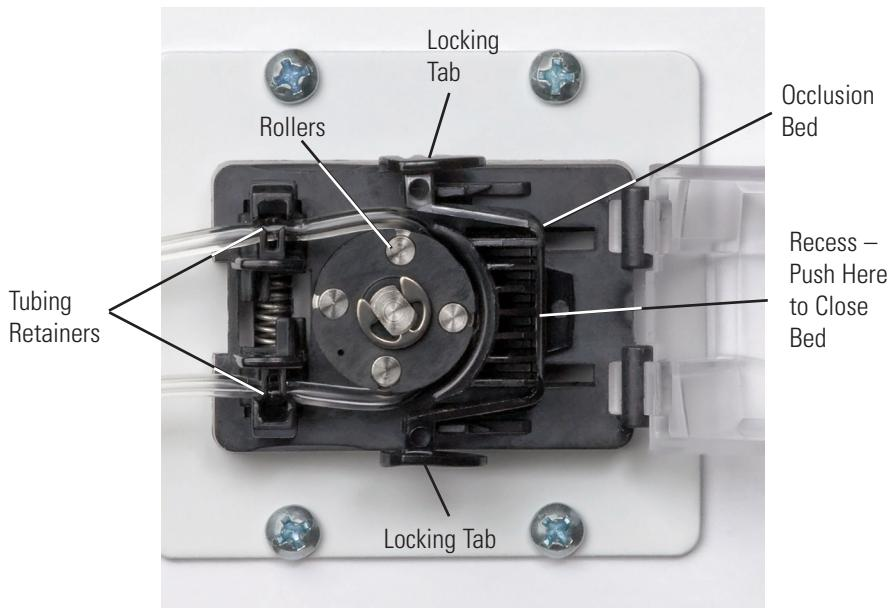

Figure 2-1. Occlusion Bed in Unlatched Tube Loading Position
1. Remove the 4 screws (see Figure 2-1) on the face of the unit holding the pump mounting plate in place. Retain the 4 screws for reassembly.
3. Release the Occlusion Bed, Figure 2-1, by squeezing the Locking Tabs, Figure 2-1, together and sliding the bed down towards the door hinge.
4. Holding both ends of the tubing in one hand, form a loop and wrap the tubing around the **Rollers**, Figure 2-1, making sure that the tubing is centered on the Rollers and keeping the free ends of the tubing outside of the **Tubing Retainers**, Figure 2-1.
6. Insert the tubing into one of the **Tubing Retainers**, Figure 2-1, by moving the retainer toward the center of the pump and placing the tubing in the v-notch of the retainer. Release the retainer so that the tubing is secured in place. Repeat for the other **Tubing Retainer**. The tubing should be stretched slightly around the rollers so that there is no excess tubing between the **Rollers** and the **retainers**—any excess can be removed by pulling slightly on the tubing outside of the pump.